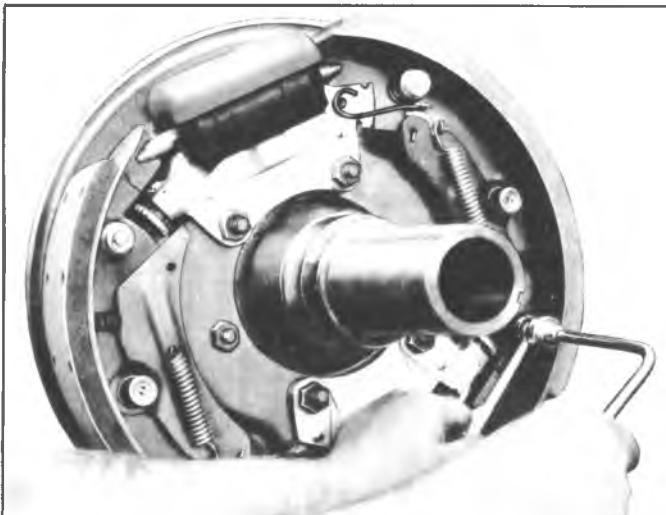

Fig. 81 -Removing Hold Down Pins Using J-22348
5. Remove the brake shoe hold down springs and pins by compressing the spring with Tool J-22348 and, at the same time, pushing the pin back through the flange plate toward the tool. Then, keeping the spring compressed, remove the lock from the pin with a magnet (fig. 81).